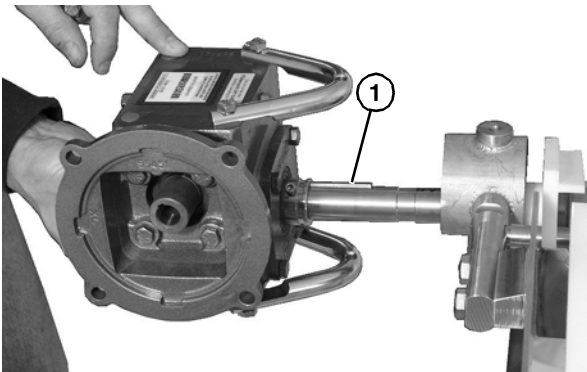

Figure 58
6. Slide assembly off the bearing spindle (**Figure 58**). Remove the key (**Figure 58, item 1**).